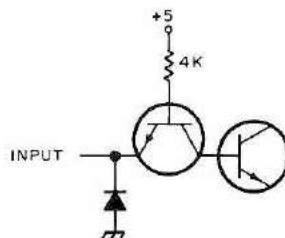
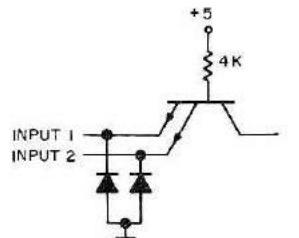

Fig. 2. Standard TTL input circuit.
Fig. 3. Input circuit of 2-input gate.
Next on the list of TTL "ins" let's investigate a typical input circuit as shown in Fig. 2. In order to guarantee that the transistor is turned on we must do two things. First, we must make the input voltage less than .8 V, and second we must draw out of the emitter 1.6 mA of current. In order to guarantee that the transistor is turned off we must also do two things. First, we must make the input voltage greater than 2 V, and second we may have to supply up to 40 μA of leakage current. The diode is not necessarily present in all circuits. Its purpose is to limit
negative pulses on the input that may occur due to transmission line effects on long interconnections. This input characteristic is called 1 unit load (UL) and a circuit such as Fig. 2 which contains 1 UL is said to have a fan-in of 1.
If a second emitter is added to the circuit of Fig. 2 we have a 2-input gate configuration, as shown in Fig. 3. Each input has its own protection diode. If either input satisfies the "on" requirements the transistor will be on. Obviously, both inputs must satisfy the "off" requirements in order to turn the transistor off. By adding more emitters the manufacturers make multiple input gates. The 7430, for instance, has 8 emitters.